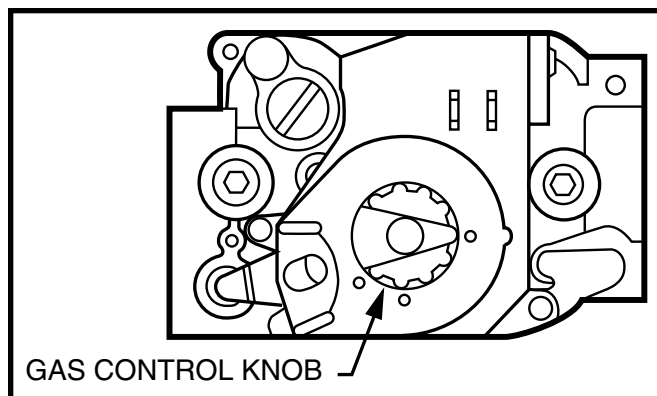
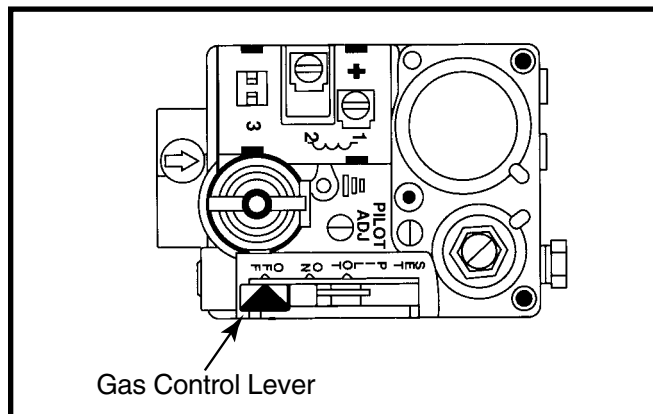

Figure 30. Direct Ignition Gas Valve - Honeywell
Figure 31. Direct Ignition Gas Valve - Robertshaw
- **Honeywell:** push in and turn the gas control knob clockwise to **OFF**. See Figure 30.
- **Robertshaw:** push the gas control lever (**Do not force!**) to the **OFF** position. See Figure 31.
4. Wait ten (10) minutes to clear out any gas. If you smell gas, **STOP!** and follow the Safety Information on page 21. If you do not smell gas, proceed to next step 5.
- **Honeywell:** push in and turn gas control knob counter-clockwise to **ON** (Figure 30).
- **Robertshaw:** push the gas control lever to the **ON** position (Figure 31). **Do not force!**
- Honeywell (Figure 30): Turn gas control knob clockwise to **OFF**, Robertshaw (Figure 31): Push the gas control lever to **OFF**.
- **Honeywell:** push in the gas control knob and turn clockwise to **OFF** (Figure 30).
- **Robertshaw:** push the gas control lever to **OFF** (Figure 31). The lever cannot be placed in the off position unless it is pushed in slightly. **DO NOT FORCE!**
- Honeywell: push in and turn the gas control knob clockwise to the OFF position (Figure 30).
- Robertshaw: push the gas control lever to the OFF position (Figure 31).